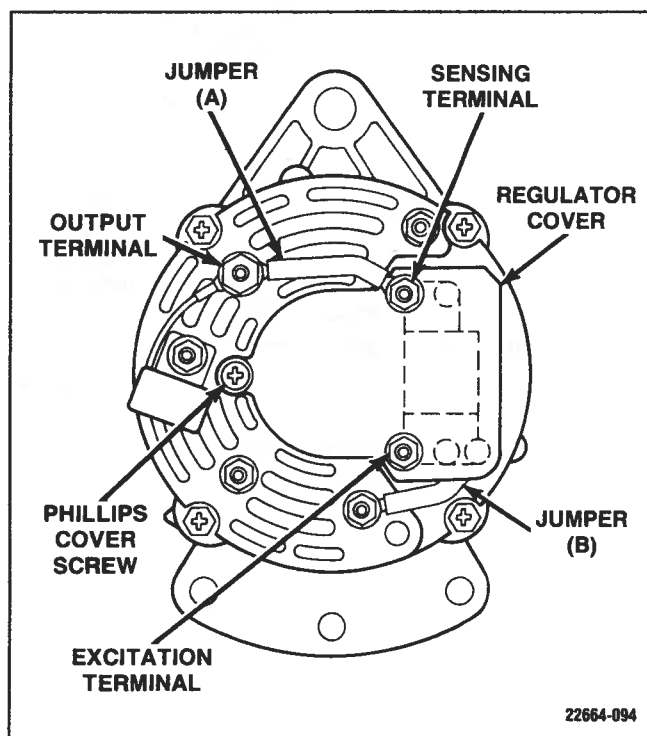

Figure 6-120. Regulator-Cover Removal
- b. Remove Phillips cover screw from regulator cover. (Figure 6-120)
- c. Remove nut from output terminal and nut from sensing terminal, and remove jumper (A).
- f. Temporarily install jumper (A) and all associated nuts. Leave jumper (B) installed.